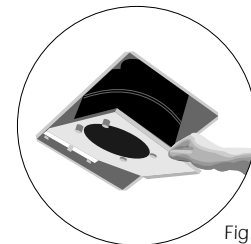

Fig. 3
1. After you have installed the housing in the ceiling, run ducting from the unit to the outside and have made the necessary electrical connections you can reinstall the venturi and blower in the fan housing (fig. 3). Plug the fans blower assembly into the fans receptacle and secure the blower housing with the screw removed earlier. Rotate the blower wheel by hand to ensure it revolves freely.